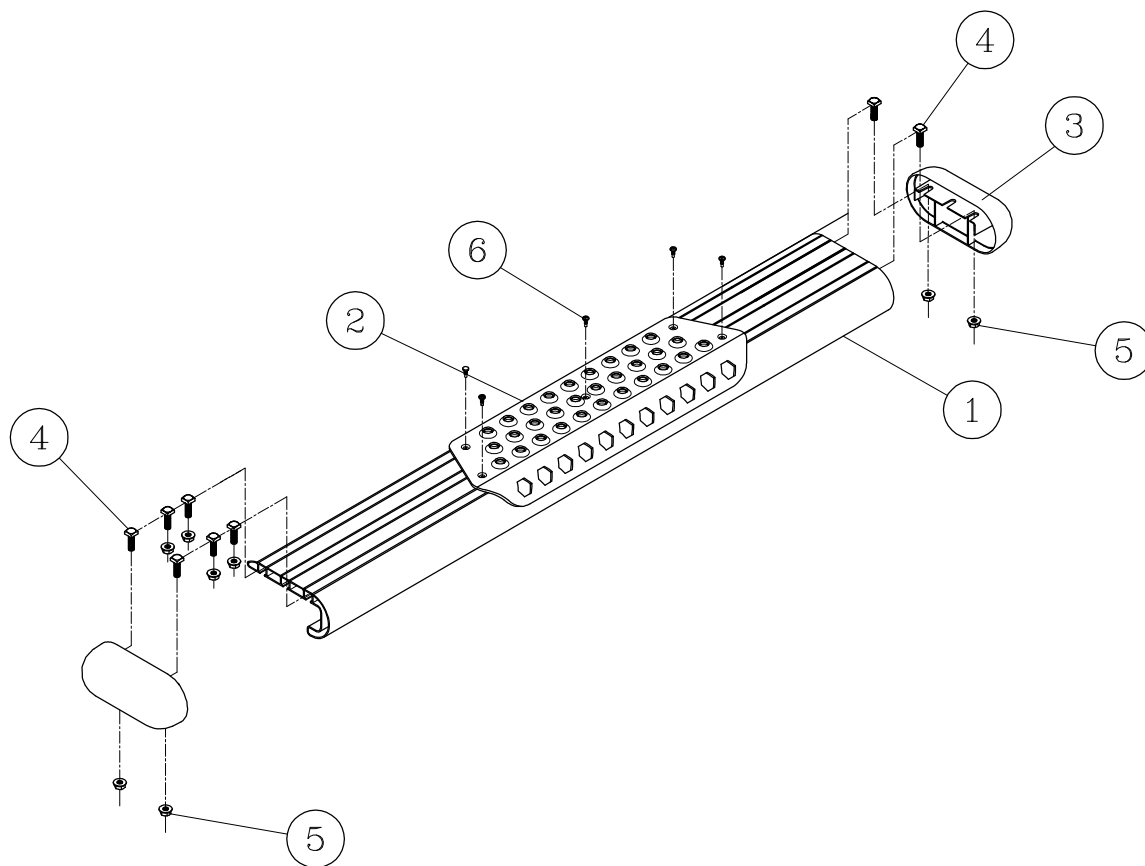

fig.1
3. BEFORE ATTACHING THE O-MEGA STEPS TO THE BRACKETS, PLACE THE STEP PADS (ITEM #2) ON TOP OF THE STEP PLATES ACCORDINGLY FOR YOUR VEHICLE. USING THE HOLES IN THE STEP PAD AS A GUIDE DRILL (5) 1/8" PILOT HOLES. ATTACH WITH (5) 8-18X1/2" TEK SCREWS (ITEM #6) PROVIDED. REPEAT FOR ALL STEP PADS.
5. INSTALL THE END CAPS (ITEM #3) AS SHOWN IN (FIG.1), TIGHTENING THE SERRATED NUTS (ITEM#5) TO 5 LB FT.
2. INSTALL THE MULTI-THREAD U-NUT (ITEM #14) ON THE FRONT MOUNTING BRACKET (ITEM #3) AND ASSEMBLE THE 3/8"-16 X 5 STUD (ITEM #11), 3/8"-16 SERRATED FLANGE NUTS (ITEM #13) AND THE .354 X 1.00 X .748 RUBBER WASHER (ITEM #17) INTO THE U-NUT (ITEM #14) (**LOAD REACTION BOLT ASSEMBLY**) AS SHOWN IN *fig. 1*.